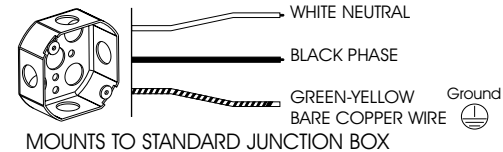

FIG. 1
- Fig.1.** Install structure "A" on the J-Box. by using the four slots "B". Take care to guide the supply wires through the hole "C" provided.
- Fig.1.** Connect supply wires to the terminal block "D". Be careful to check the correct polarity.